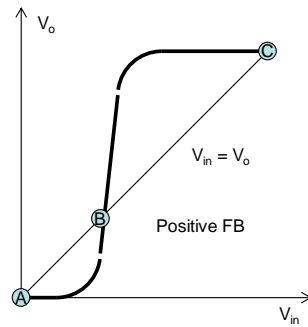

Fig 20: Positive feedback
Positive feedback often results in multiple intersection points, corresponding to several possible stable operating points, Fig 20. The intermediate operating point (B) is unstable. A small disturbance (e.g., noise voltage v_n) is amplified, pushing the circuit toward one of the stable operating points.